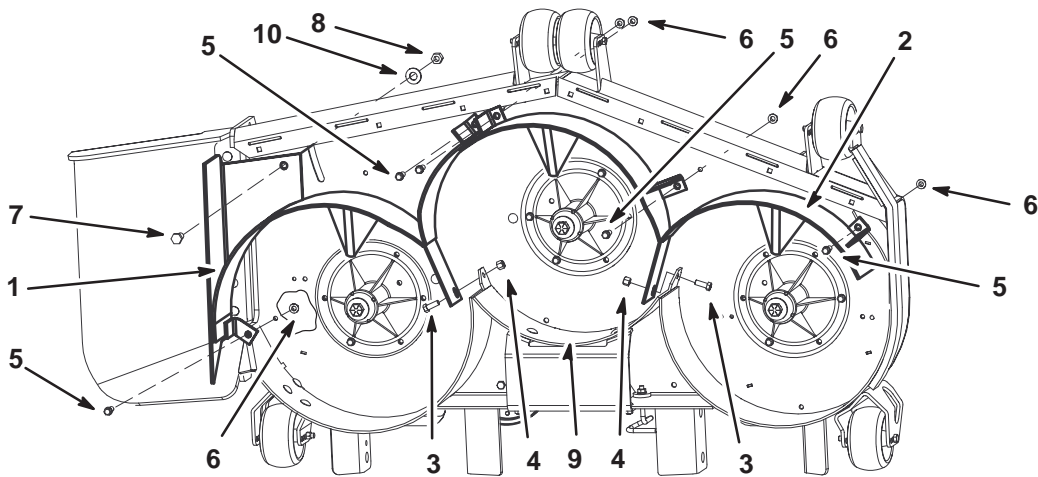

Figure 3
2. Secure the right baffle to the top of the mower with 1 bolt (1/2 x 1 inch), 2 tapping bolts (3/8 x 1 inch), 1 nut (1/2 inch), 1 washer (1/2 inch), and 2 flange nuts (3/8 inch) (Fig. 3).
3. Secure the right baffle to the rear baffle with 1 bolt (3/8 x 1 inch) and 1 nut (3/8 inch) (Fig. 3).
5. Secure the left baffle to the top of the mower with 3 tapping bolts (3/8 x 1 inch) and 3 flange nuts (3/8 inch) (Fig. 3).
6. Secure the left baffle to the rear baffle with 1 bolt (3/8 x 1 inch) and 1 nut (3/8 inch) (Fig. 3).